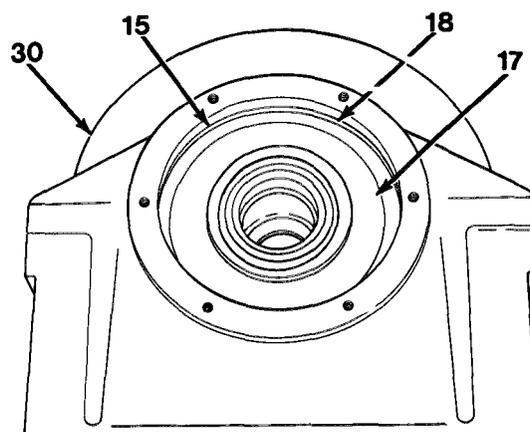
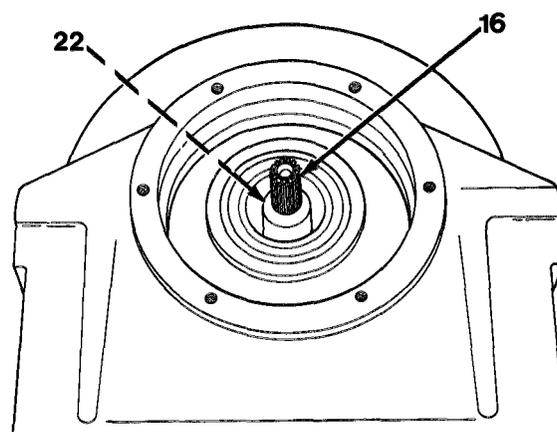

Figure 16-23
Figure 16-24
15. Install O-ring (18, Figure 16-23) in drum.
16. Lubricate O-ring (18) and drum opening with lubricating oil MIL-L-2105, grade 80W90.
17. Install drum closure (17) and snap ring (15) into drum (30).
18. Install sun primary gear (16) into primary planet carrier (22, Figure 16-24) while meshing sun primary gear (16) with planet gears.